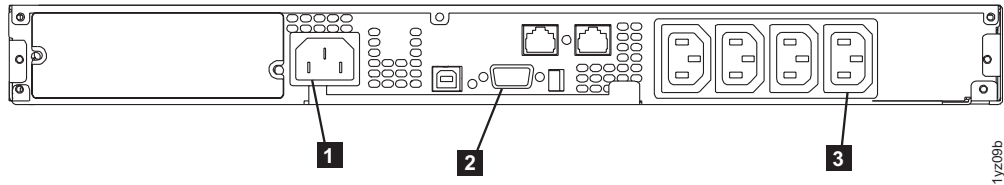

Figure 227. 2145 UPS-1U (rear view)
2. At the back of the 2145 UPS-1U, remove the power cable retainer before disconnecting the SAN Volume Controller power cable from load segment receptacle 2 (**3** in Figure 227).
3. Disconnect the signal cable from the communication port (**2** in Figure 227).
4. Disconnect the main power cable from the main power source (**1** in Figure 227).